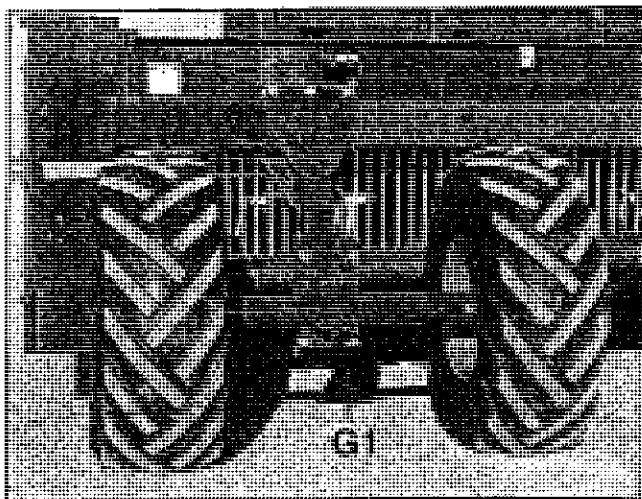

Figure 2.39: Oscillation Carrier Wheels.
G. Carrier Wheels (see Figure 2.39 and 2.40).